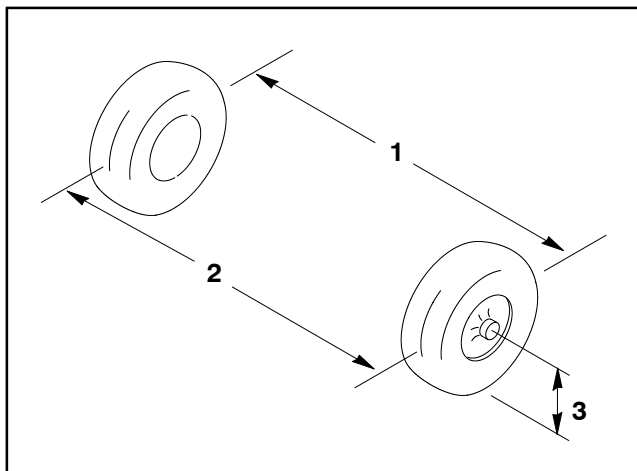

Figure 2.3
5. Measure distance between the front tires at axle height at both the front and rear of the tires (Fig. 2.3). Front wheel toe-in should be from 0 to 1/4 inch (0 to 6 mm).